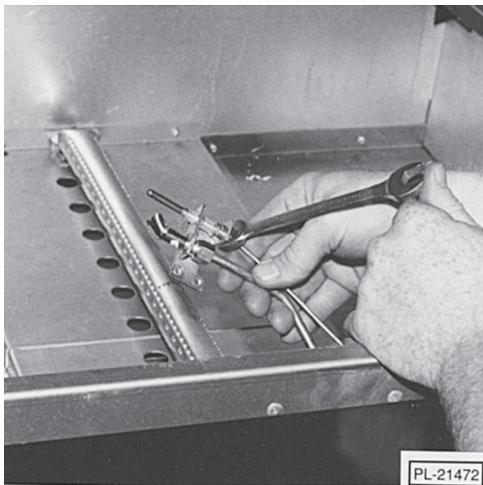

Fig. 42
3. Remove thermocouple from bracket (Fig. 42).